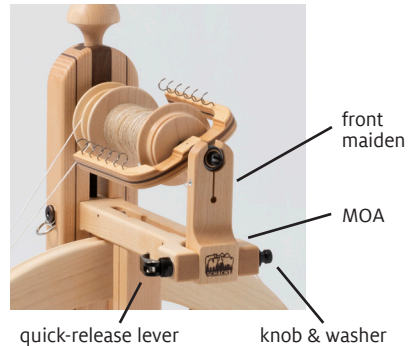

FIGURE 8: REMOVE STANDARD MAIDEN
2. Open the quick-release lever and unscrew the knob (Figure 8). Remove the knob and washer.